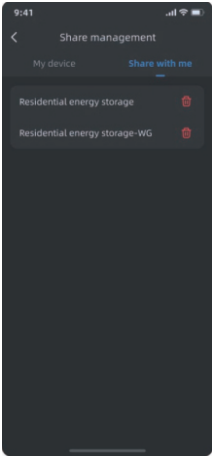

Figure 3
- 3)Figure 3: Display the device shared with you, click "Delete" to open a confirmation pop-up for cancelling the sharing.